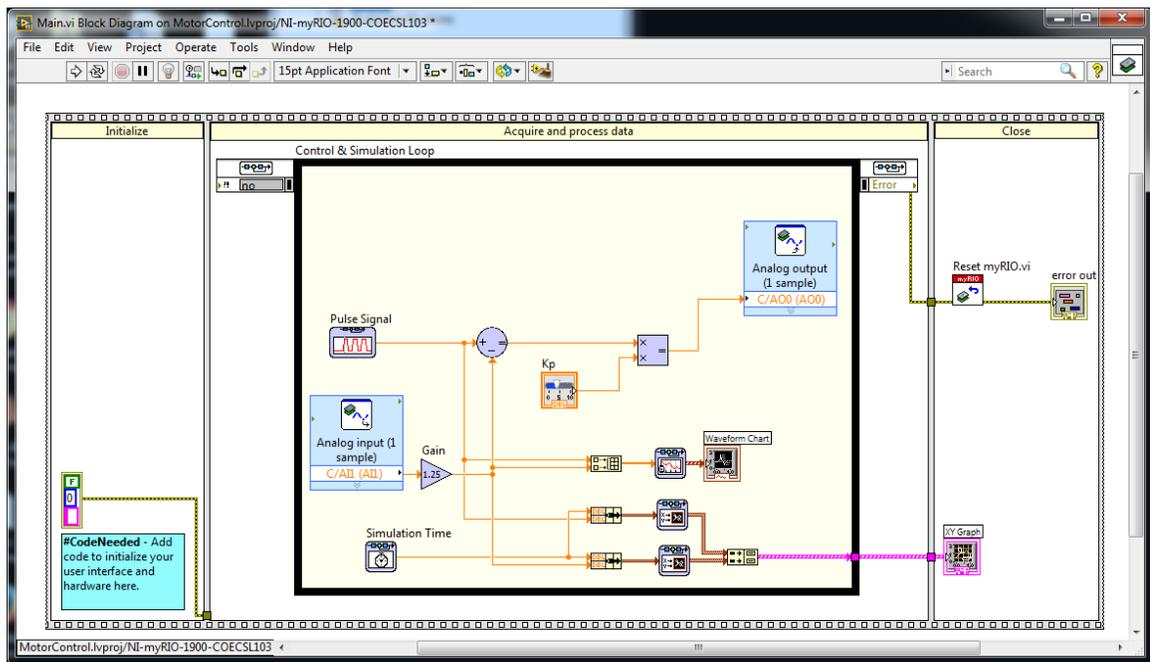

Figure 8: LabVIEW Block Diagram for Proportional Gain Controller
- Connect the blocks as shown in Figure 8.